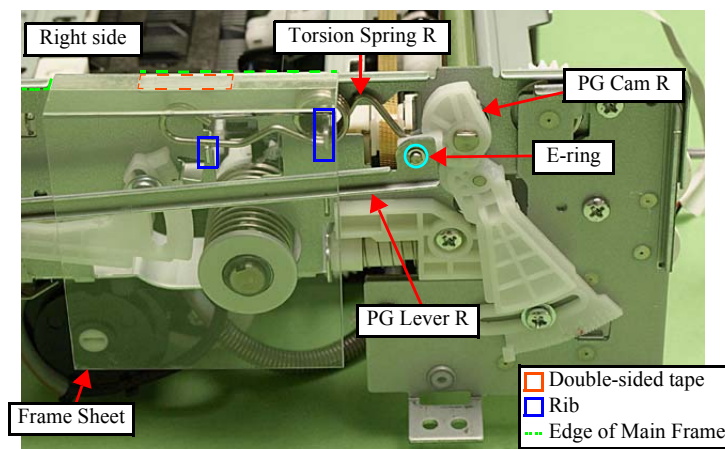
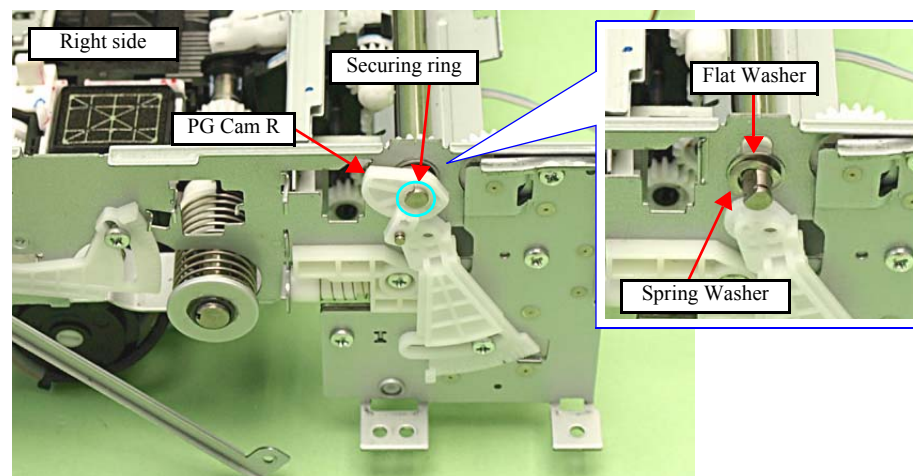

Figure 4-132. Removing the Carriage Unit (1)
Figure 4-133. Removing the Carriage Unit (2)
8. Remove the E-ring and remove the PG Lever R. (See Fig. 4-132.)
- When installing the Flat Washer and the Spring Washer, install them in the order of the Flat Washer and the Spring Washer from the frame side. (See Fig. 4-133.)
- When installing the Torsion Spring R, hook the spring leg between PG Cam R and the Spring Washer, and attach the spring to the ribs (x2) of the Main Frame. (See Fig. 4-132, Fig. 4-133.)
- When installing the Frame Sheet, attach it with double-sided tape while aligning it with the edge of the Main Frame. (See Fig. 4-132.)